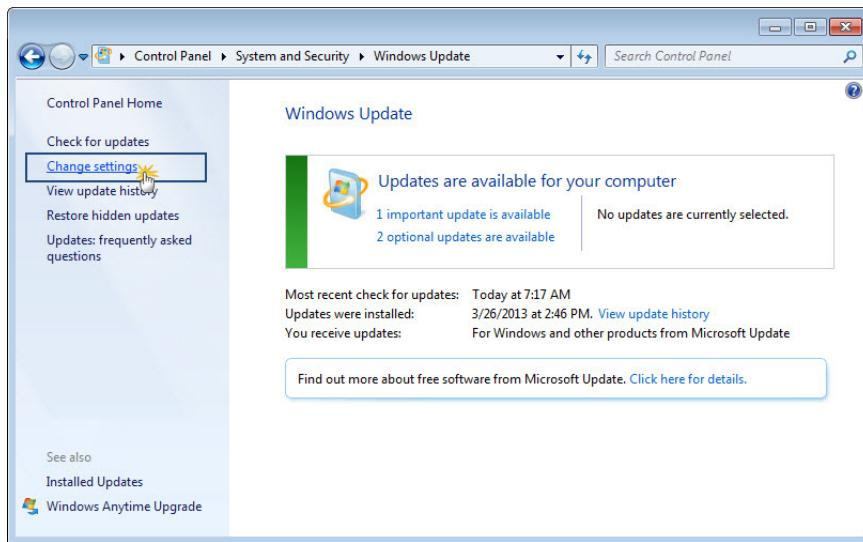

Figure 2-6. Deactivating automatic updates (B)
- 2 Click **Change settings** in the dialog box that appears (Figure 2-6).